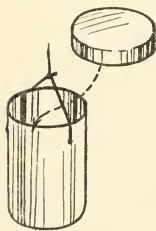

FIG. 107. — Counter-balance.
**The Counter-balance** is a large can filled with earth, sand, or small stones. Its weight must be equal to about three times that of the empty car. Fasten the lifting cable through holes punched in opposite sides of the can (Fig. 107).